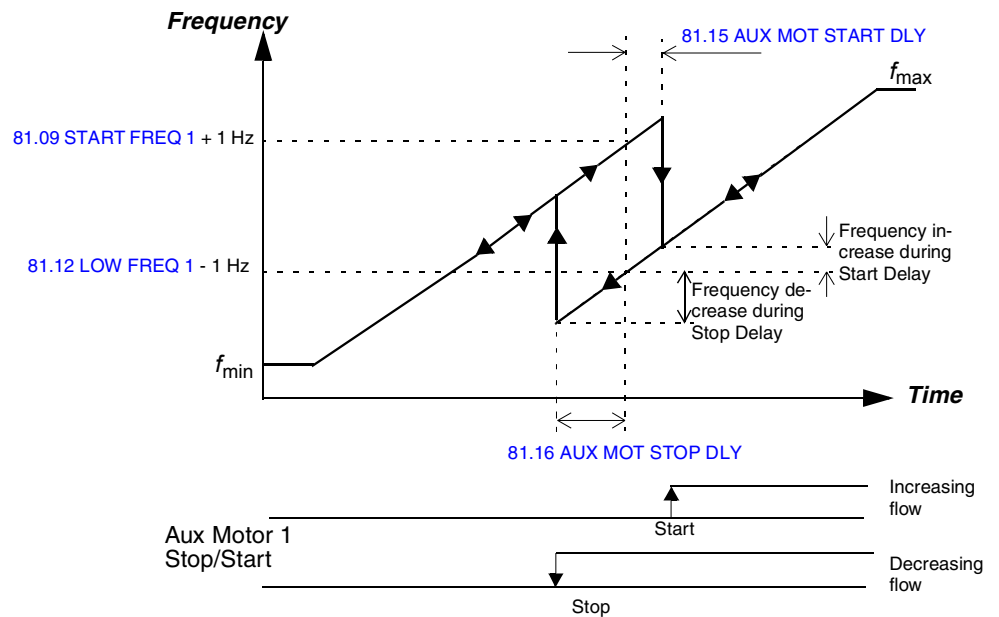

Figure 6-21 Start Frequency, Low Frequency, Start Delay and Stop Delay.
**81.09 START FREQ 1** Parameter sets a frequency limit (see Figure 6-21).
**81.10 START FREQ 2** This parameter sets a frequency limit (see Figure 6-21).
**81.11 START FREQ 3** This parameter sets a frequency limit (see Figure 6-21).
**81.12 LOW FREQ 1** This parameter sets a frequency limit (see Figure 6-21).
**81.13 LOW FREQ 2** This parameter sets a frequency limit (see Figure 6-21).
**81.14 LOW FREQ 3** This parameter sets a frequency limit (see Figure 6-21).
**81.15 AUX MOT START DLY** Sets the Start Delay for the auxiliary motors. See Figure 6-21 for more information.
**81.24 START FREQ 4** This parameter sets a frequency limit (see Figure 6-21).